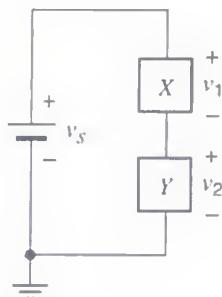

Fig. 1
1. Construct the series circuit shown in Fig. 1. For this experiment X and Y will be resistive elements provided to you (e.g., two different-valued linear resistors with values of several $\text{K}\Omega$; you can learn to read resistor values as explained in Appendix A). Set the